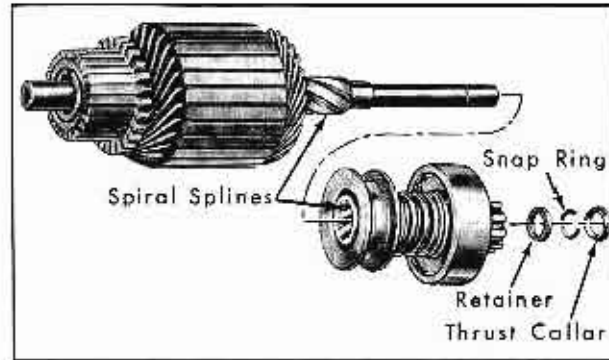

Fig. 11-31 Starter Armature Assembly - Exploded
6. Remove clutch from armature by first sliding thrust collar off end of armature shaft, Fig. 11-31.